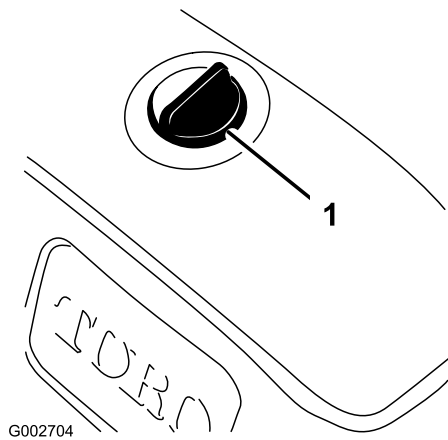

Figure 15
3. Clean the area around the hydraulic oil reservoir cap to prevent debris from entering the tank (Figure 15).